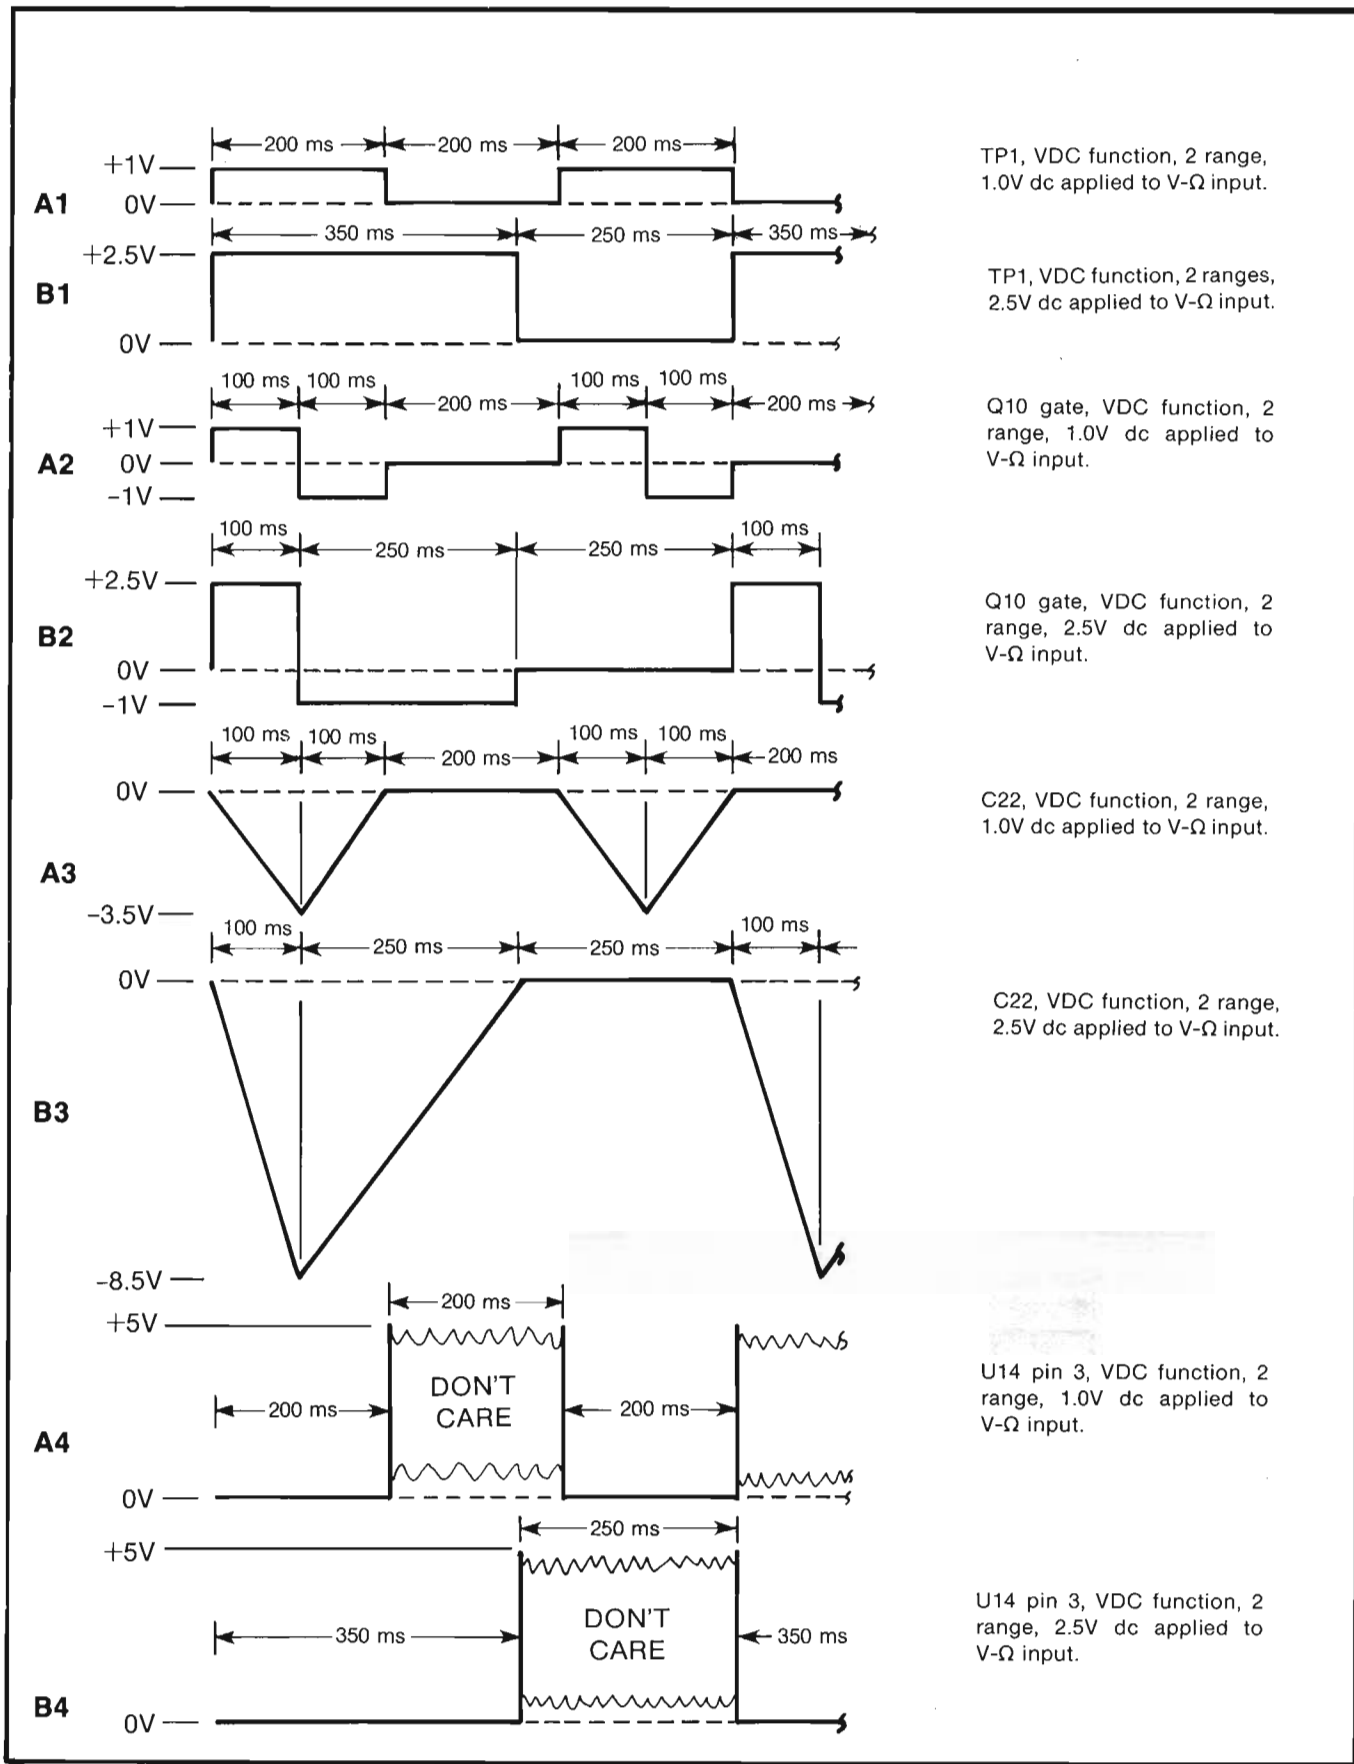

Figure 4-4. WAVEFORMS AT TP1, Q10, C22 AND U14 FOR IN RANGE AND OVERRANGE INPUTS
4-35. The waveforms presented in Figure 4-4 represent the operation of the analog circuitry, in four key
4. The oscilloscope display should be similar to waveform A1 in Figure 4-4.